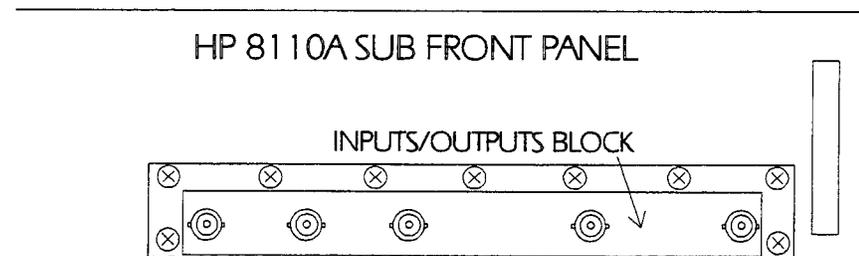

Figure 5-15. Inputs/Outputs Block Showing the Fixing Screws
4. Remove 9 screws securing the Inputs/Outputs Block to the chassis and remove the block. Figure 5-15 shows the positions of the fixing screws